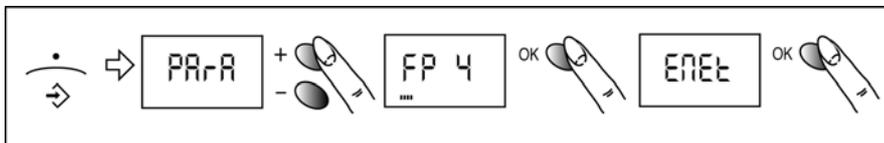

Fig.8
1. Turn the mode selector switch to the  position (see Fig.8)